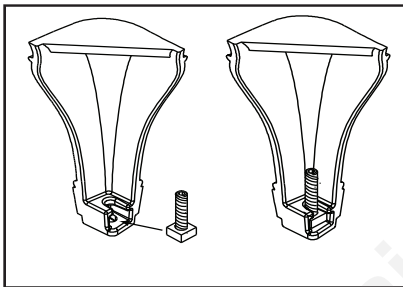
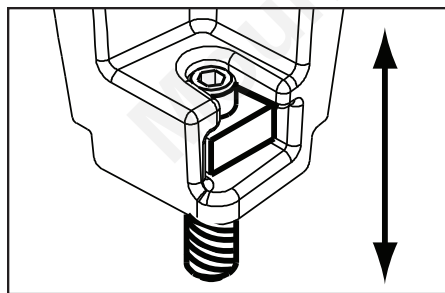

Figure 19.2
Figure 19.3 - Bolt fully extended
2. Slide assembled nuts and bolts into slots on legs with the nuts on the bottom. **Figure 19.2.** Use a 5/32 in. (3.96mm) Allen wrench to adjust legs up and down to desired level. **Figure 19.3.**